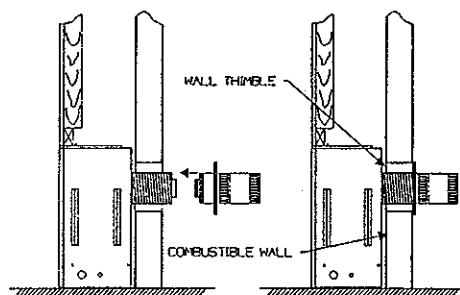

FIG. 3
9. When penetrating the roof a rigid 7" pipe must be used. Attach the 7" flex to the 7" ridge with high temperature sealant, clamp security with adjustable clamp, and use two screws/washers either above or below camp assuring the flex and ridge pipe are secured. 4" flex pipe must be secured the same way with 2 screws and washers either above or below the clamp but must penetrate the 4" flex and 4" section of termination. Attach 7" ridge to 7" termination with sealant and screw with 3 sheet metal screws. (See Fig. 3).
Locate vent opening on the wall. COMBUSTIBLE WALLS cut a 11" x 11" (280mm x 280mm) minimum hole and frame as shown. NON-COMBUSTIBLE WALL hole opening must be 8.5" (216mm) in diameter. Install wall thimble for vent pipe routing through wall. See Fig. 3.